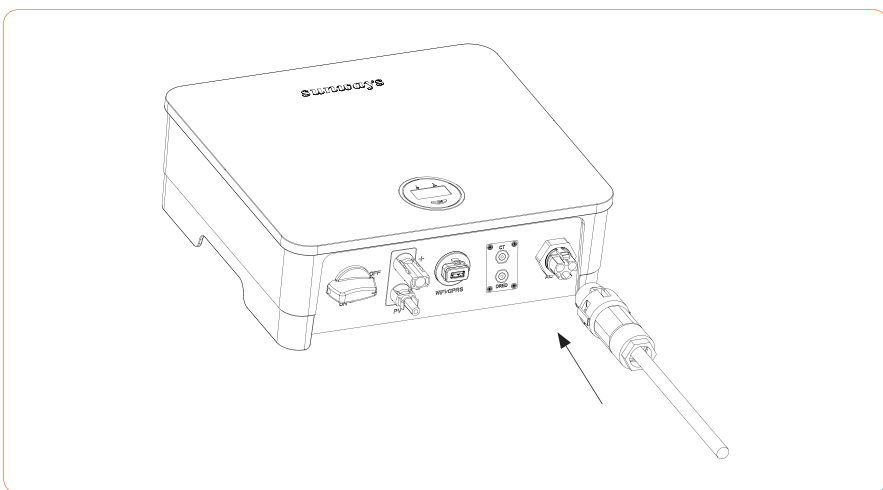

Figure 4-19 Connect the AC connector
2. Connect the AC connector to the inverter AC terminal, and the slight click shows that the connection is in the place. As shown in figure 4-19: